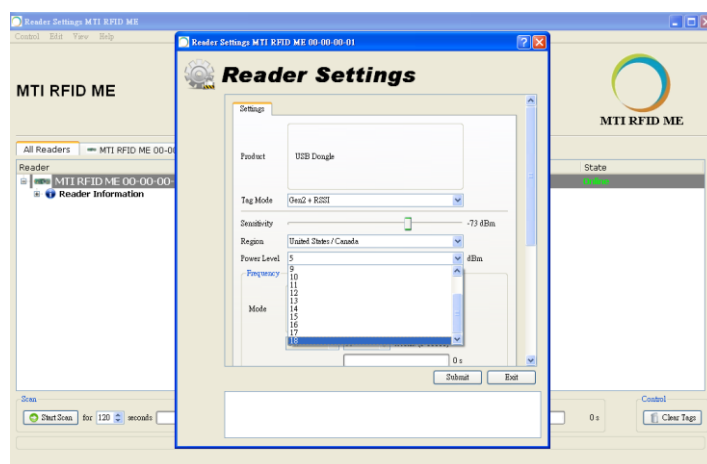

Figure 12
- To achieve the longest reading or writing range, set the power to the maximum allowable level of +18dBm as shown in Figure 12.